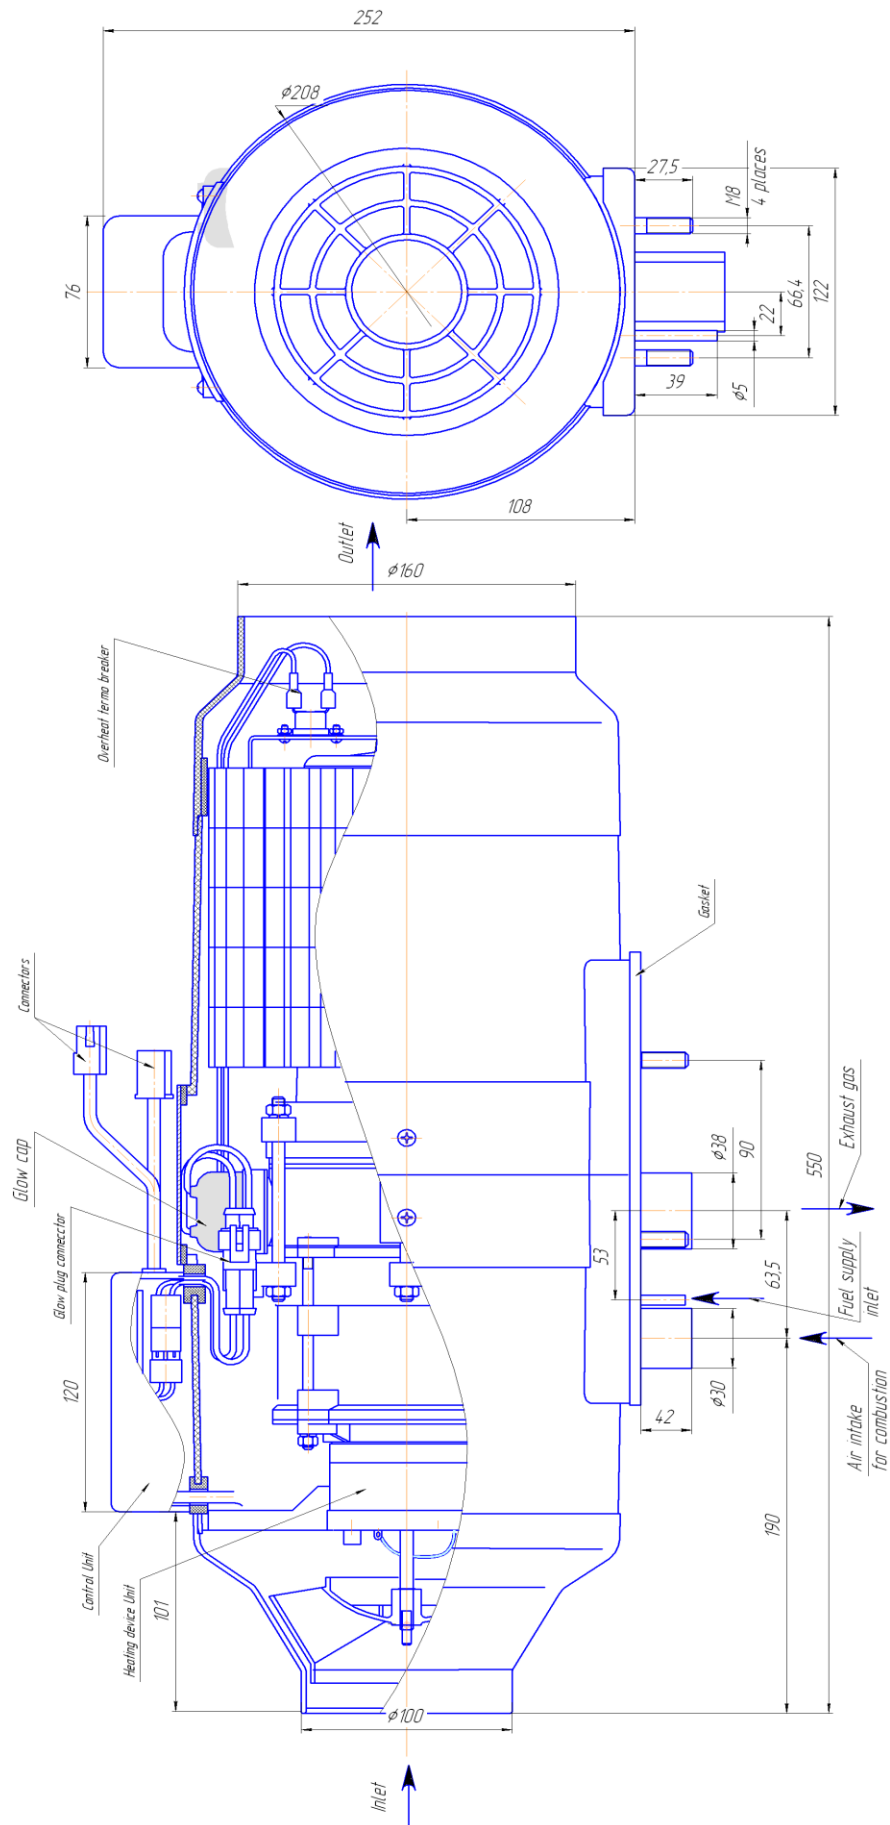

Figure. 4.2 – Basic heater components
- Heating device (See Figure 4.2 for basic components thereof);